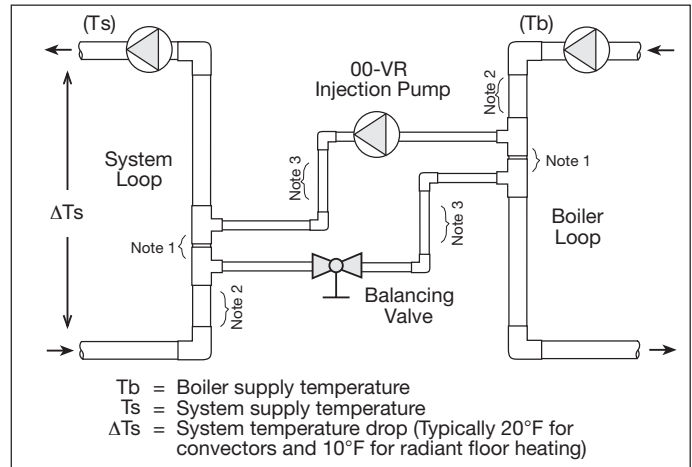

Figure 1
Variable Speed Injection Mixing uses a circulator as a mixing device instead of a 2-way, 3-way or 4-way valve. Typically used in radiant primary/secondary piping designs, the variable speed pump is installed in the “bridge” piping (see Figure 1) between the boiler loop and system loop. The speed of the circulator is modulated in order to inject different rates of hot water from the boiler loop into the cooler system return water based on the relationship between outdoor temperature and supply water temperature (reset ratio). This configuration allows for virtually any water temperature to be supplied to the heating system. With outdoor mixing reset, the water temperature supplied to the heating zones can be reduced all the way down to room air temperature (full reset) even when a non-condensing boiler is being used. This allows for optimal control of the heating zone, no matter the load requirements. Most boilers cannot operate at low temperatures, therefore any Taco injection pump option can be modulated back in order to prevent the boiler from operating at cold temperatures.
When the injection pump is turned off, there must be no heat transfer from the boiler loop to the system loop. In order to avoid this unwanted heat transfer, primary/secondary piping techniques are used as shown in Figure 1.
The Radiant Mixing Block (RMB) eliminates the need for the piping technique as shown in Figure 1.
1. Determine the design operating temperatures of the system loop and boiler. (Ts and Tb from figure 1)